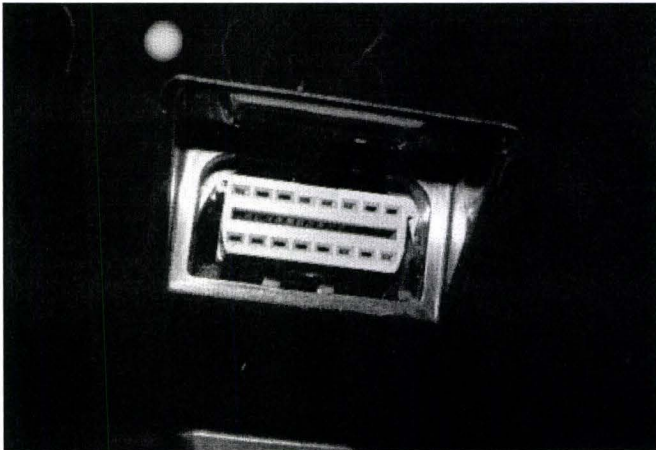
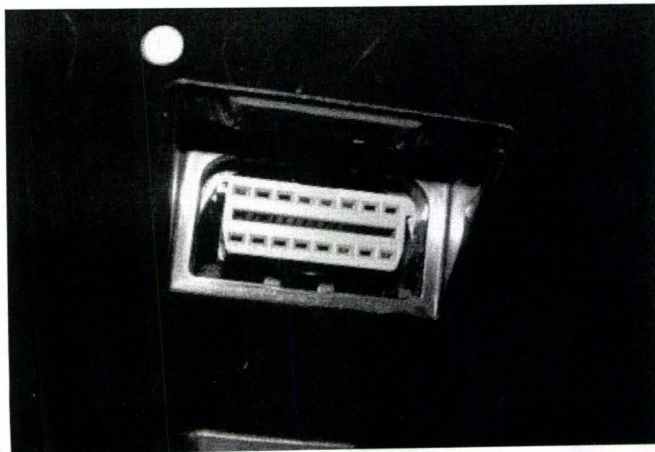

Figure 1
Figure 2
In January 2012 a TPI was released which instructed Dealers to remove where fitted the side view camera control module as a potential fault was identified with the original part. The latest specification side view camera control module is now available for all Bentley Mulsanne vehicles which were specified with the side view camera option. If the original module has been previously removed and replaced with the link loom as per previous instruction, a Yellow paint mark will be evident on the diagnostic plug surrounding cover as shown in Figure 1, please remove the loom and fit the replacement side view camera module as detailed within this document.
If the vehicle is not already listed as repaired in "Repair history" (in Elsa pro), check for the Campaign completion identification mark which is a White paint mark located above the diagnostic plug cover (Figure 2) the White mark confirms the latest specification part has been fitted, should neither be evident carry out the required work in accordance with instructions.
3. Should the original side view camera control module have been previously removed and replaced with the link loom 3Y0 998 381 there should be a Yellow completion paint mark on the diagnostic plug surrounding cover (Figure 1), please carefully remove this and replace with a White paint completion mark as shown in Figure 2. If the original control module has been replaced for the latest specification part or the factory fitted loom has been replaced with the latest specification part, a White paint completion mark should also be added (Figure 2)